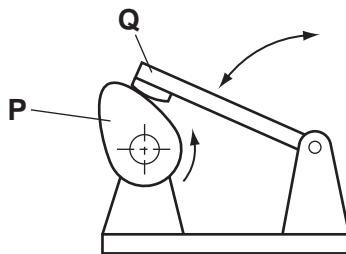

Fig. 10
- (c) Fig. 10 shows a mechanism for motion conversion.
- (i) Name the **two** types of motion shown in Fig. 10.
- (iii) Give **two** applications for the mechanism shown in Fig. 10.